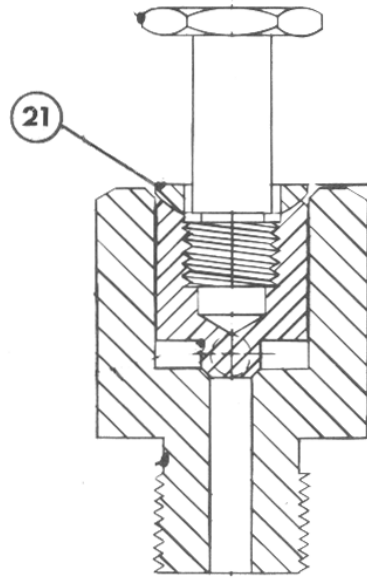

Figure 5.
1. Remove the cap (2) from the body (11) by unfastening the 6 cap screws (3).
2. Slide the yoke (5) from the throttling valve stem (6a).
- b. If surface imperfections cannot be removed by lapping, install a new valve unit (6). Valve units shipped from the factory have matched valve stems and bodies, and must be installed as a unit. Do not interchange throttling valve stems and bodies.
- After completion of inspection or replacement of the throttling valve unit, reassemble the regulator by sliding the yoke (5) on the throttling valve stem (6a). Be sure that the contoured washer (21) on the valve stem is located against its matching surface (See Figure 5).
8. Reassemble the regulator by sliding the yoke(s) on the throttling valve stem (6a). Be sure that the contoured washer (21) (See Figure 5) on the valve stem is located against its matching surface.
9. Replace the regulator cover (18) against the body and fasten it in place using the 3 flange bolts. (10).